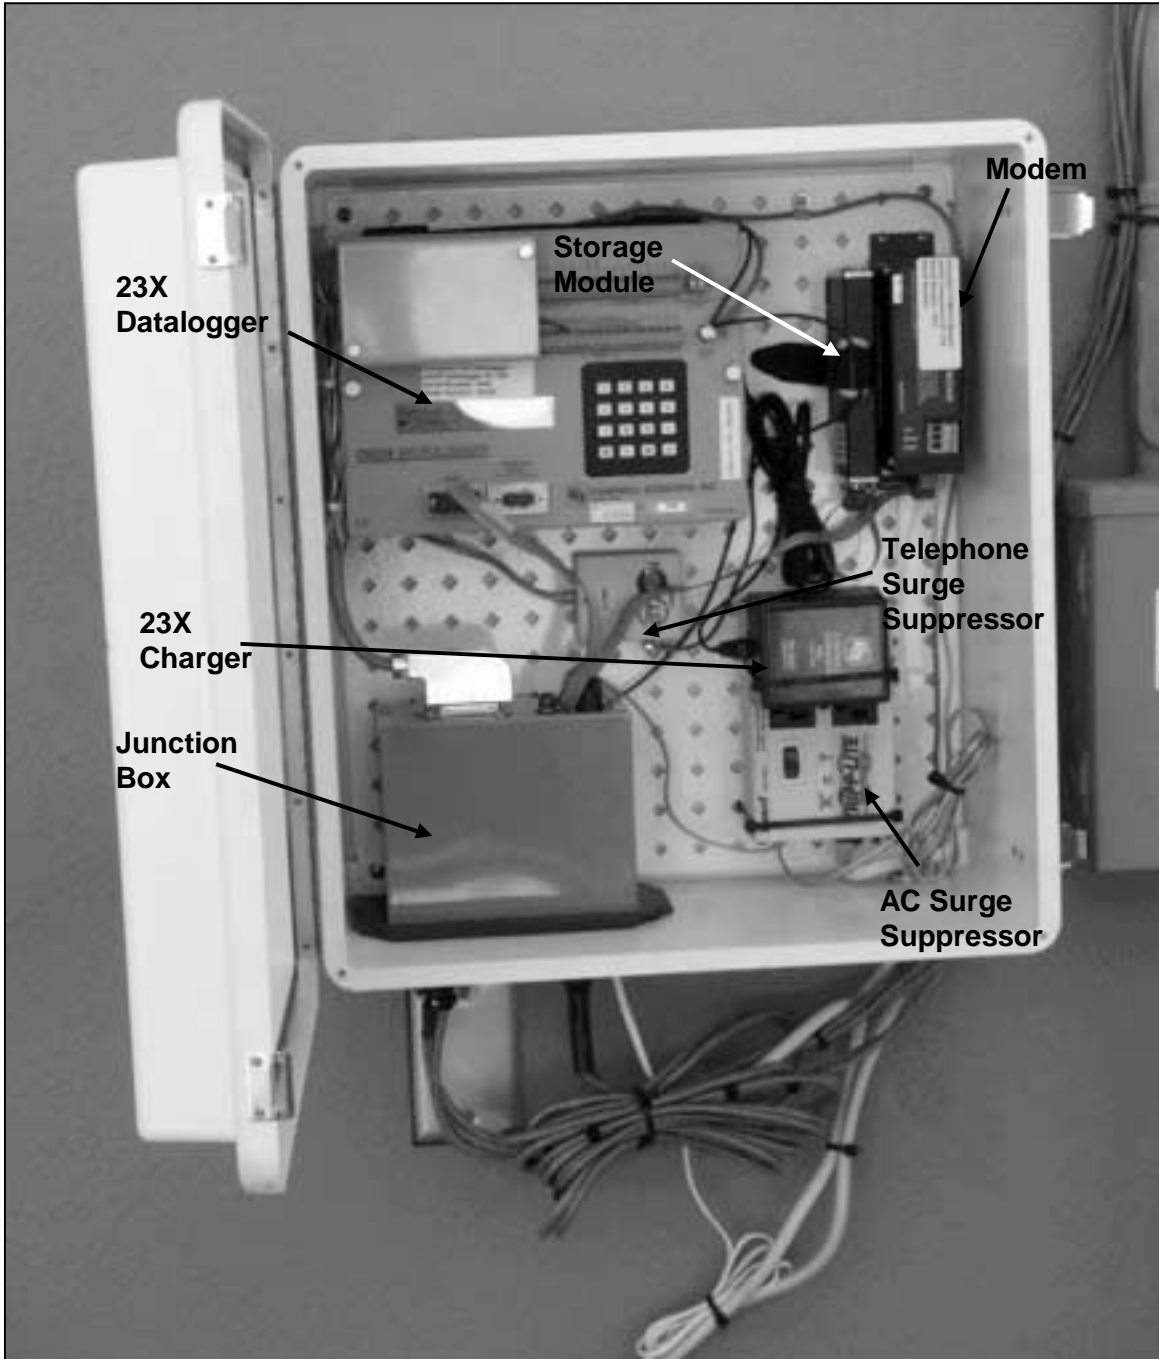

Figure 4-6. 23X Datalogging System.
Take the appropriate case or box to the site when removing the 23X datalogging system so that the instrument will be protected during transit. See Section 4.3 for packing and shipping instructions. Figure 4-6 is a diagram of the 23X datalogging system. Follow the procedures below for removal and packing of the enclosure:
INSTALL	<p>Carefully unpack the enclosure.</p> <p>Open the enclosure and remove packing material (bubble-wrap) from any components secured for shipping. The following items may require unpacking:</p> <ul style="list-style-type: none">• Campbell datalogger• Campbell storage module• Campbell modem• AC surge protector• Other loose components <p>Verify that all components in the enclosure are positioned properly (see Figure 4-6).</p> <p>Check for loose wiring in the enclosure, especially on the datalogger terminal strips and verify the DB25 connector on the top of the junction box is properly connected.</p> <p>Attach the enclosure to the tower or other mounting support using four (4) bolts or screws.</p>